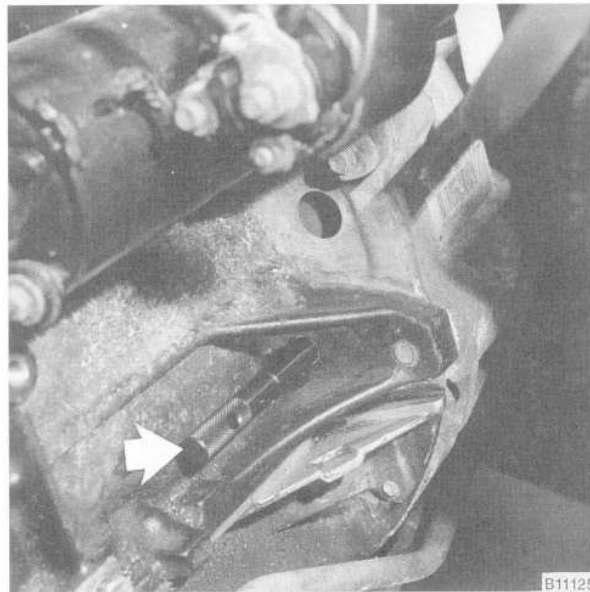

Fig. 11. BMW special tool no. 11 2 300 installed through bellhousing and into flywheel.
18. Lock the crankshaft in the TDC position by inserting BMW special tool no. 11 2 300 through the transmission bellhousing and into the hole in the flywheel or drive plate. See Fig. 11.